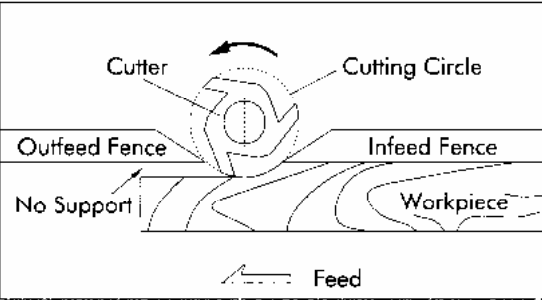
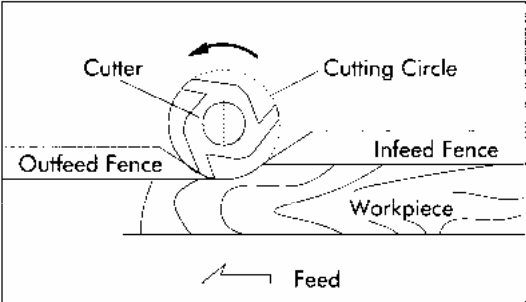

Fig. 4.2
Fig. 4.3
2. When the shaping operation removes the entire edge of the stock, e.g. in jointing or making a full bead, the shaped edge will not be supported by the outfeed fence edge when both fences are in line, as shown in Fig. 4.2. In this case, the stock should be advanced to the position shown in the Fig.4.2 and stopped. The outfeed fence should then be moved forward to contact the work, as shown in Fig.4.3. The outfeed fence will then be in line with the cutting circle, and the operation can continue.